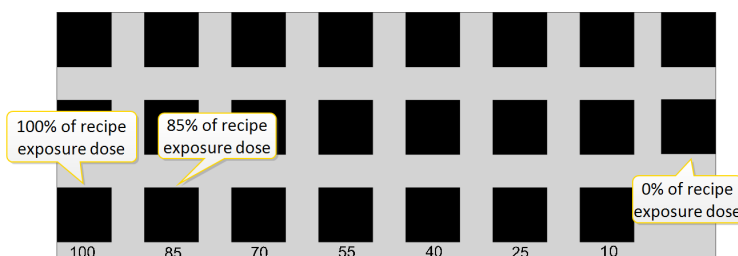

Figure 3-81 Project that holds exposures blocks for doses from 0% to 100% in steps of 5%
4. Expose a project that has blocks that cover exposure doses from 0% up til 100% in steps of 5% (or lower), like the example in **Figure 3-81** below.